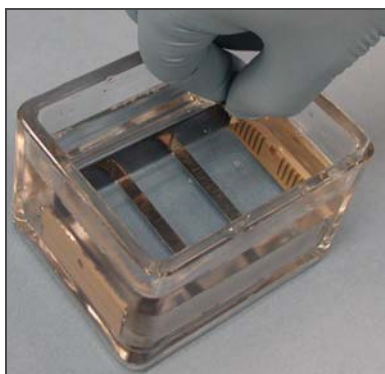

Figure 50 Placing BeadChips in Wash Dish Containing PB1
6. Immediately and carefully slide each BeadChip into the wash rack one at a time, making sure that the BeadChip is completely submerged in the PB1 (Figure 50).